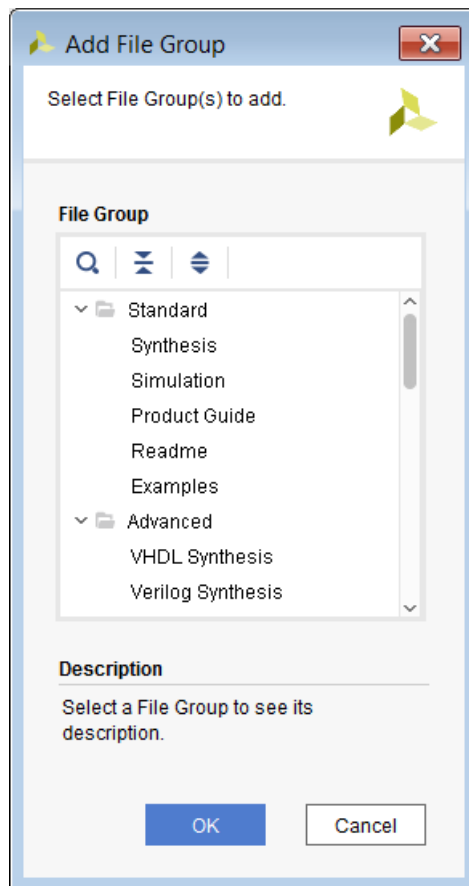

Figure 4-9: Add File Group
2. Select from the file group list, which includes the group description, as shown in Figure 4-9.